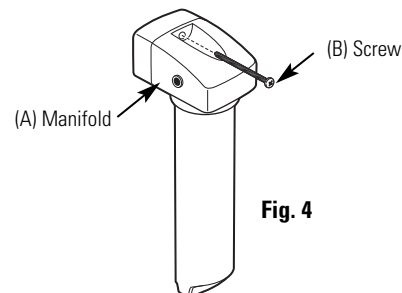

Fig. 4
A. PREFERRED INSTALLATION (Mounting Using the Screw Provided [Fig. 4])
3. Use the screw (B) provided to mount through the screw hole in the center of the manifold (A). (Pre-drill a 1/16" pilot hole, if needed). **NOTE:** If mounting to drywall, with no stud, a drywall anchor (not included) must be used.